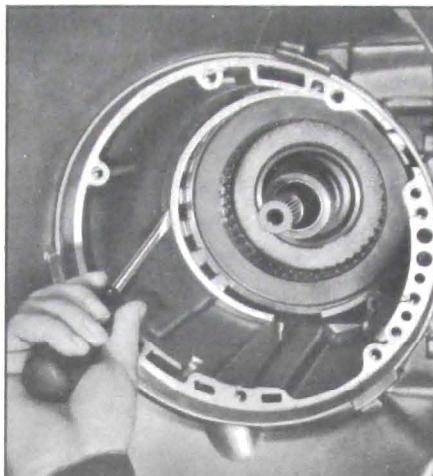

Figure 5-698
13. Install the backing plate to case snap ring. Gap in snap ring should be opposite anchor pin. See Figure 5-698.